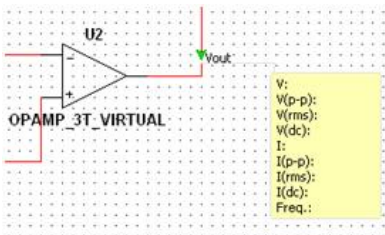

Figure 8. Placing a Measurement Probe
3. To change its name double-click on the yellow field, and in the "RefDes" section, rename the probe from "Probe 1" to "Vout" (Figure 8).